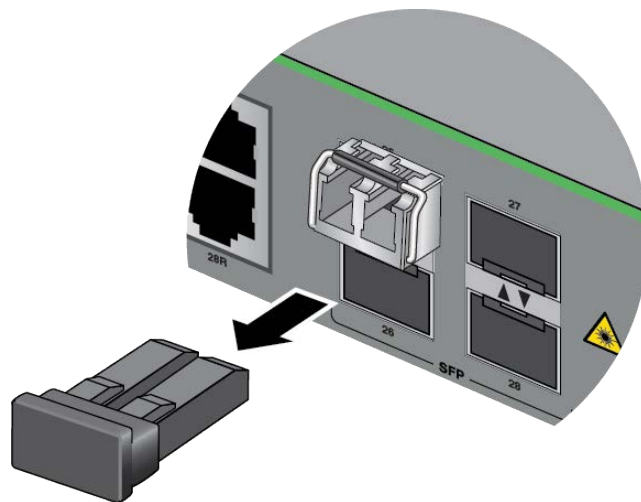

Figure 26. Removing the Dust Cover from an SFP Transceiver
4. Remove the dust cover from the transceiver. Refer to Figure 26.